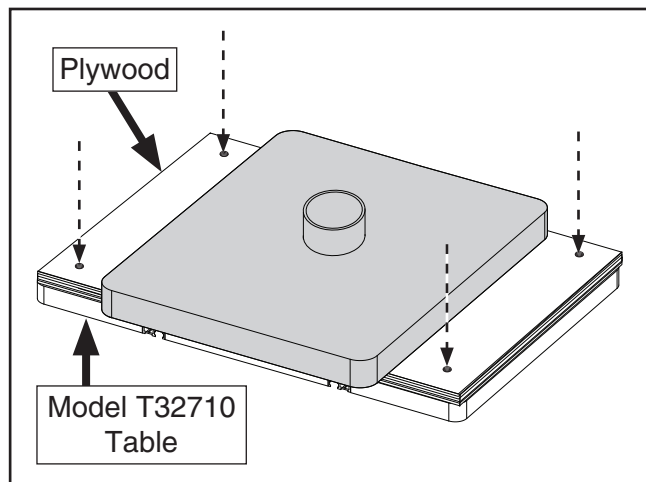

Figure 16. Model T32710 table mounting hole locations.
13. Line up edges of plywood with Model T32710 table and use holes drilled in **Step 11** to mark and drill $\frac{1}{2}$ " diameter, $\frac{1}{2}$ " deep mounting holes in Model T32710 table (see **Figure 16**).